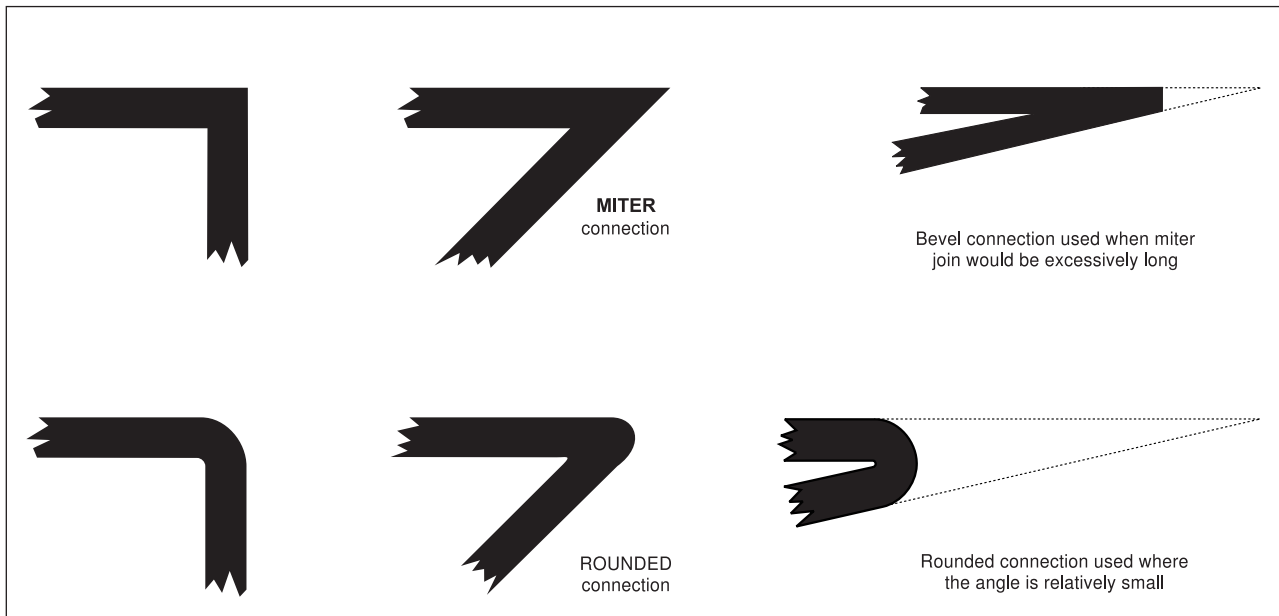

Figure 187. Path Connection Types
The connection types are illustrated in Figure 187 on page 246.
1. Where **MITER** connections would be excessively long, OGL/370 automatically draws another kind of connection (called bevel). See Figure 187